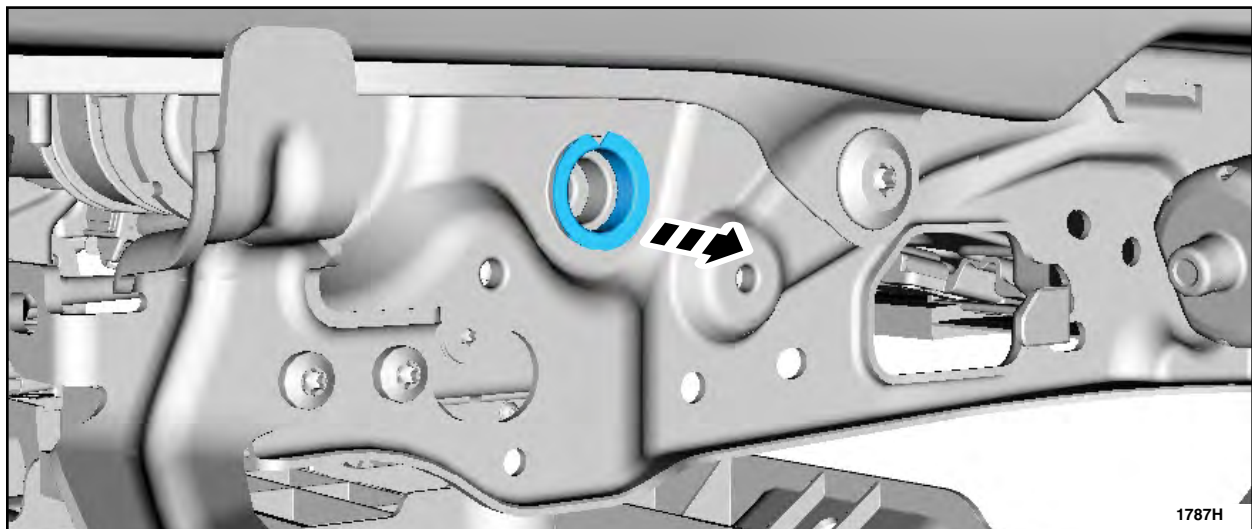

FIGURE 5
2. Remove the upper pivot link bushing. See Figure 5.
3. *Install the new upper pivot link bushing. See Figure 5.*